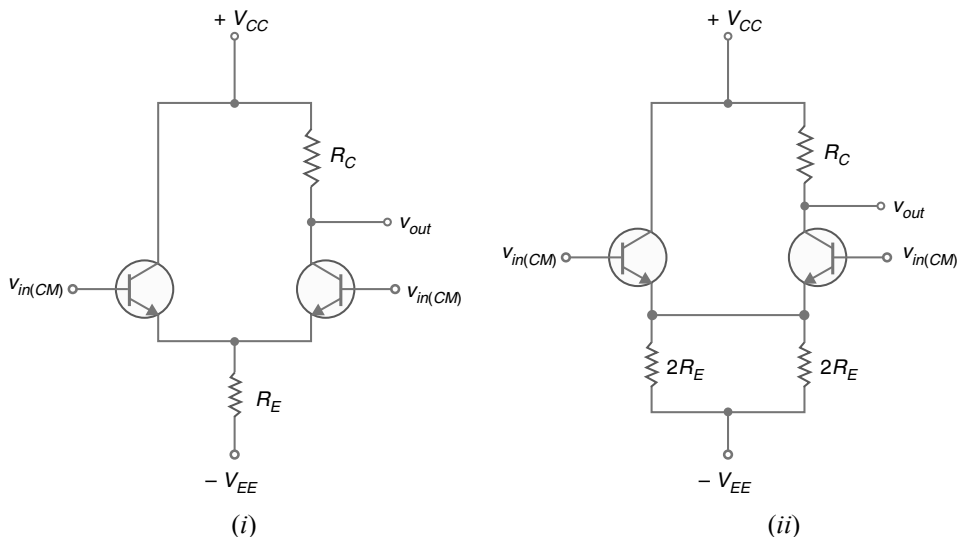
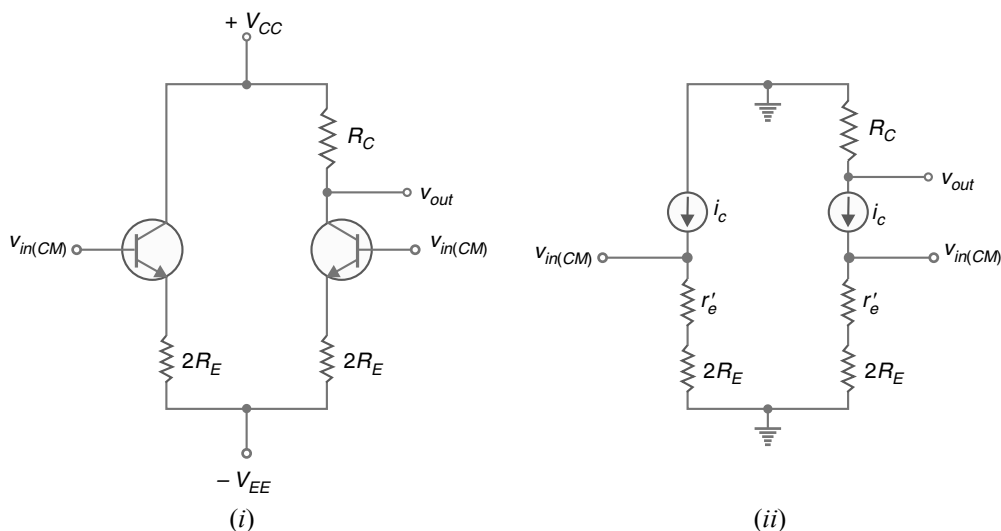

Fig. 23.34
Fig. 23.35
The common-mode signals are equal in amplitude and have the same phase. Fig. 23.34 (i) shows the common-mode operation of a differential amplifier (DA). Note that the same input voltage,  $v_{in(CM)}$  is being applied to each base. Ideally, there is no a.c. output voltage with a common-mode input signal. It is because a differential amplifier is designed to respond to *the difference between two input signals*. If there is no difference between the inputs, the output of DA is zero. In practice, the two halves of the differential amplifier are never completely balanced and there is a very small a.c. output voltage for the common-mode signal.
The circuit shown in Fig. 23.34 (i) can be redrawn as shown in Fig. 23.34 (ii). In this equivalent circuit, the two parallel resistances of  $2 R_E$  produce an equivalent resistance of  $R_E$ . Therefore, this equivalent circuit will not affect the output voltage. Assuming identical transistors, the two emitter currents will be equal and produce the same voltage across emitter resistors. Therefore, there is no current through the wire between the emitters. We can remove this wire and the circuit becomes as shown in Fig. 23.35 (i).
**A.C. equivalent circuit.** To get the a.c. equivalent circuit, we can reduce both supply voltages to zero *i.e.*, we ground each supply point. Replacing the transistors by their a.c. equivalent circuits, we get a.c. equivalent circuit of differential amplifier for common-mode operation as shown in Fig. 23.35 (ii). We can derive the voltage gain of an \*unbypassed CE circuit. Here we will use  $2 R_E$  in place of  $R_E$ .